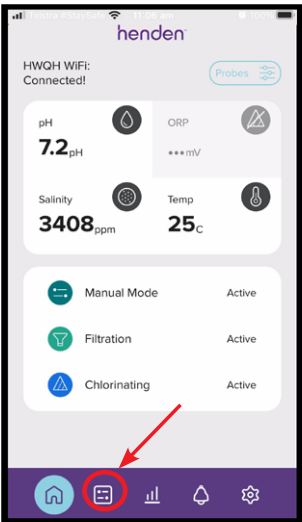

Figure 9.69
- From the dashboard of the Henden Smart Chlorinator App, go to the “modes” menu by using the modes button (refer Figure 9.69).